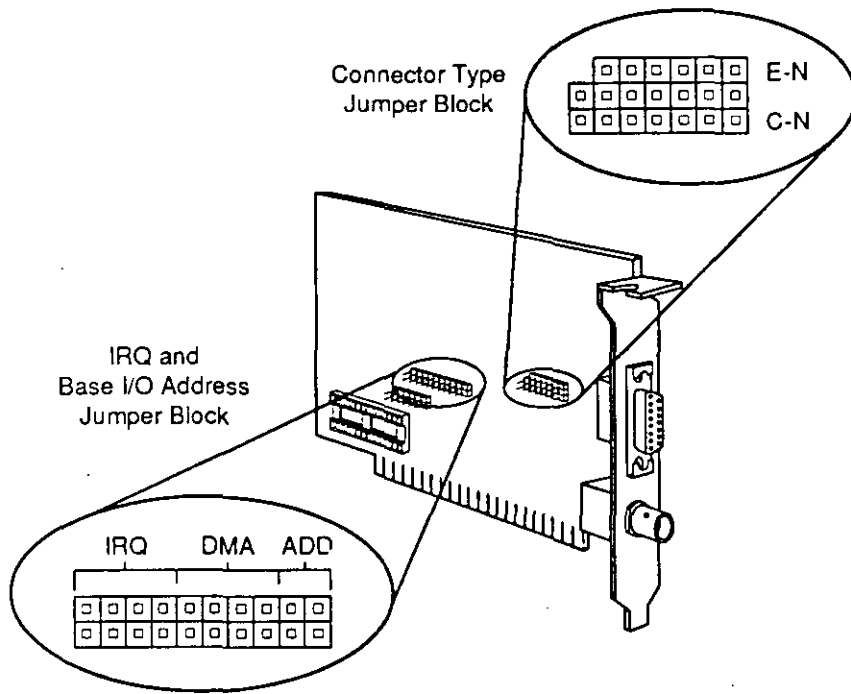

Figure 2.1
1. Locate the components used to make configuration option settings by referring to Figure 2.1.